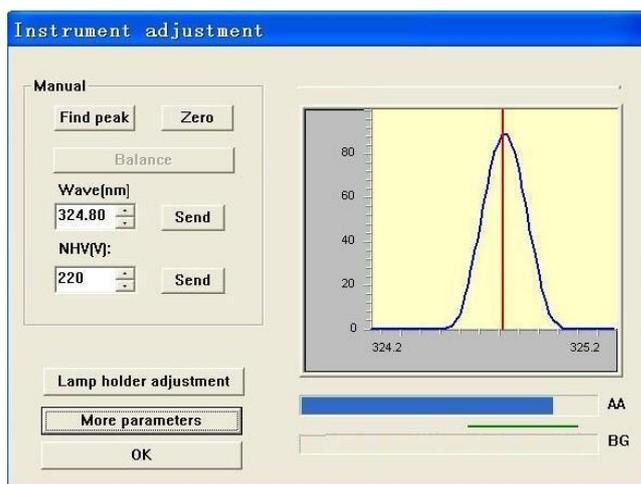

Figure 9-13
2. After the light source correction is complete, press "Zero" to zero the instrument, as shown in Figure 9-13. Press "OK" to close the dialog.